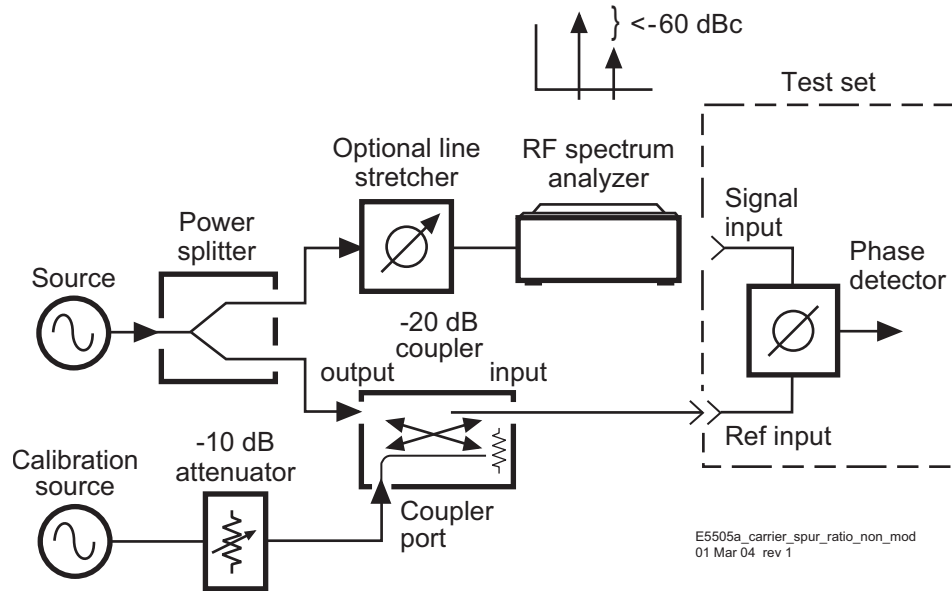

Figure 161 Carrier-to-spur ratio of non-modulated signal
- 4 Measure the carrier-to-spur ratio of the non-modulated side of the phase detector (Figure 161 on page 232). It must be at least 20 dB less than the spur ratio of the modulated port. This level is necessary to prevent cancellation of the modulation in the phase detector. Cancellation would result in a smaller phase detector constant, or a measured noise level that is worse than the actual performance. The